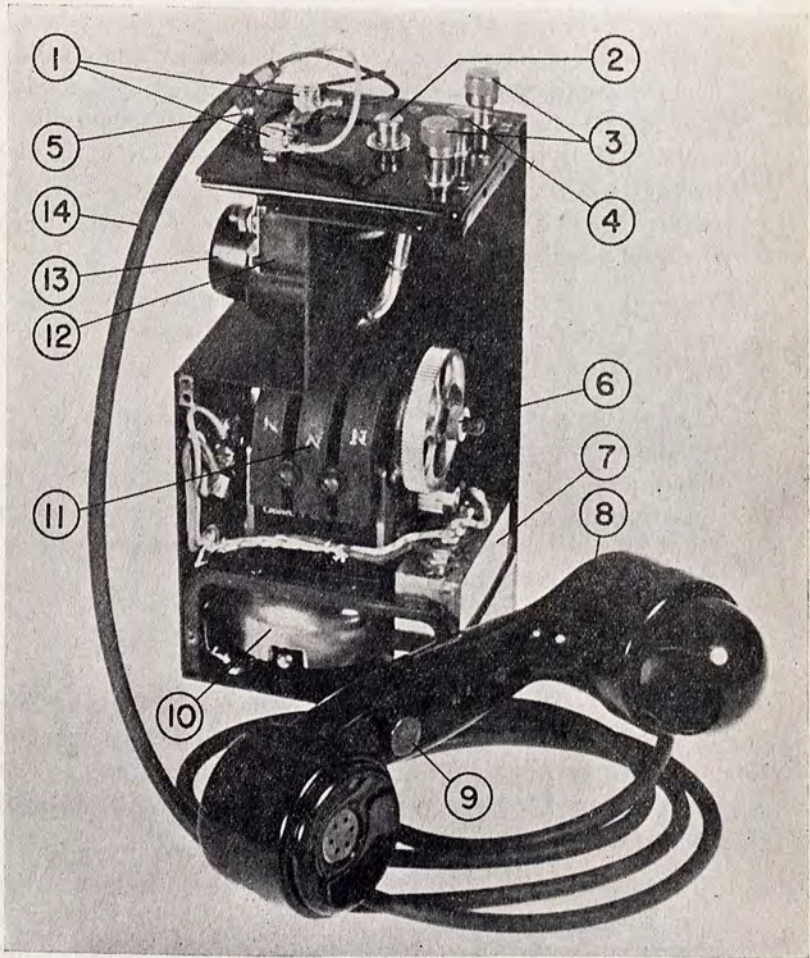
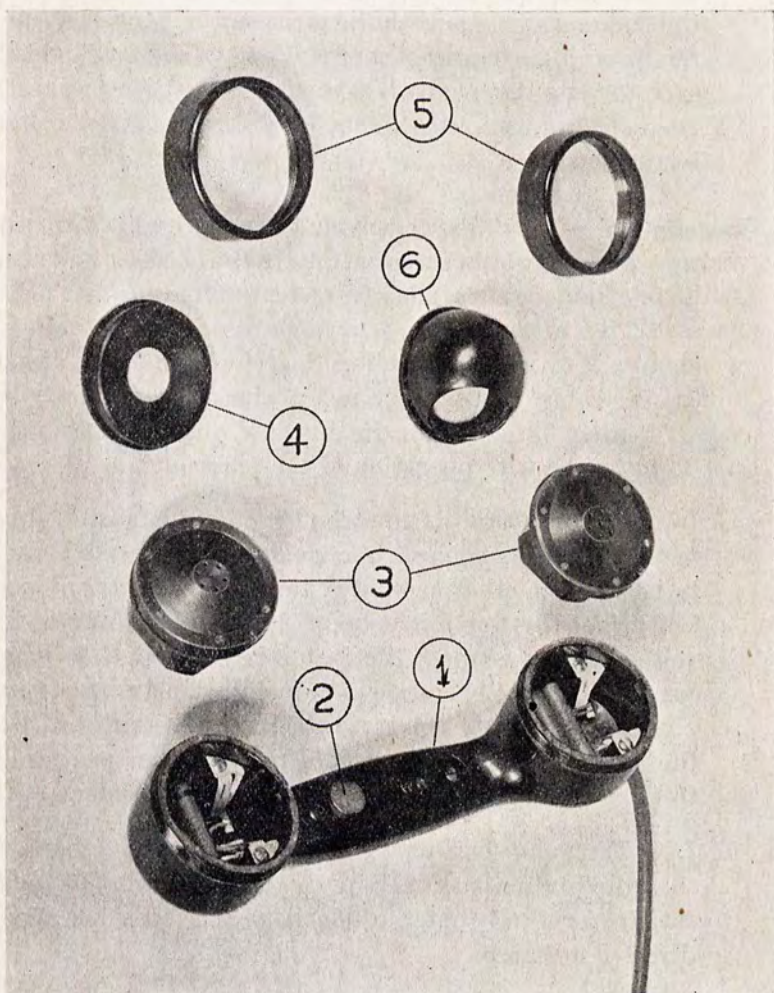

FIGURE 3. TELEPHONE EE-108 BODY ASSEMBLY, SIDE PLATES REMOVED.
FIGURE 4. HANDSET OF TELEPHONE EE-108, DISASSEMBLED.
- b. *Body*.—The body (see Fig. 3) is removed from the case by unscrewing the seven screws mentioned above and by lifting the body from the case. It is not necessary to remove the crank from the generator. On the front wall is pasted the wiring diagram shown in Fig. 6 and on the rear wall is pasted the schematic diagram shown in Fig. 5. The latter also includes the name of the manufacturer and the order number. The front and side walls may be removed as follows:
Unscrew the five screws holding the front wall to the chassis and remove the front wall; while holding the large gear of the generator firmly in the left hand, unscrew the crank with the right hand, beginning with a quick counter-clockwise jerk; unscrew the three screws holding the side wall to the body, and remove the side wall. Do not lose the rubber or "coprene" disc on the generator shaft. Fig. 3 shows the body with the front wall, crank, and side wall removed.
- h. Handset.*—The handset is shown in Fig. 3 (connected to the body) and in Fig. 4 (disassembled). It consists of the following parts:
- c. Generator.*—The generator has three cobalt steel permanent magnets arranged on two field poles about an armature (see Fig. 3). The generator switch consists of spring contacts which in normal position connect the ringer across the line, but which upon rotation of the crank, disconnect the ringer and handset and place the output of the generator across the line. The crank handle folds into the metal-faced recess on the right side of the case.